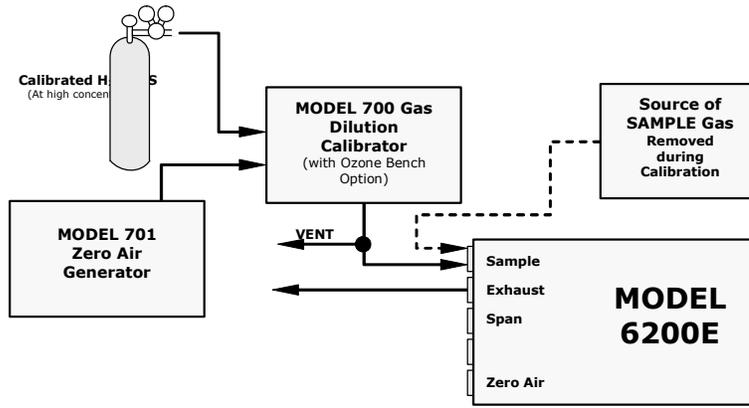
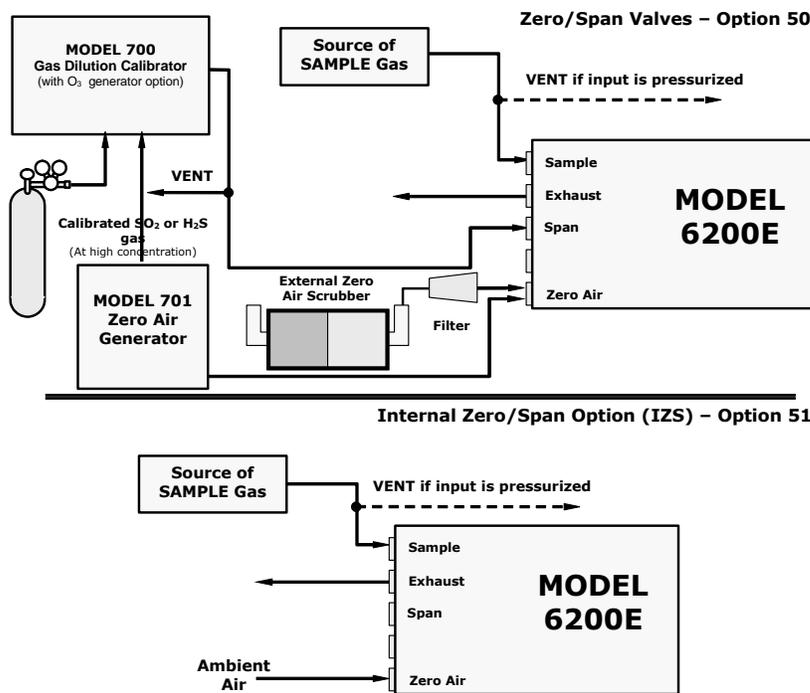

Figure 3-6: Pneumatic Connections—Basic Configuration—Using Gas Dilution Calibrator
Figure 3-8: Basic Pneumatic Connections for Units with Valve Options
Figures 3-6 and 3-7 show the most common configurations for gas supply and exhaust lines to the Model 6200E Analyzer. Figure 3-8 shows the connections for units with valve options installed.
3. Attach zero air and span gas supply lines as appropriate (see Figures 3-6 & 3.7). For this type of analyzer, zero air and span gas are defined as follows: